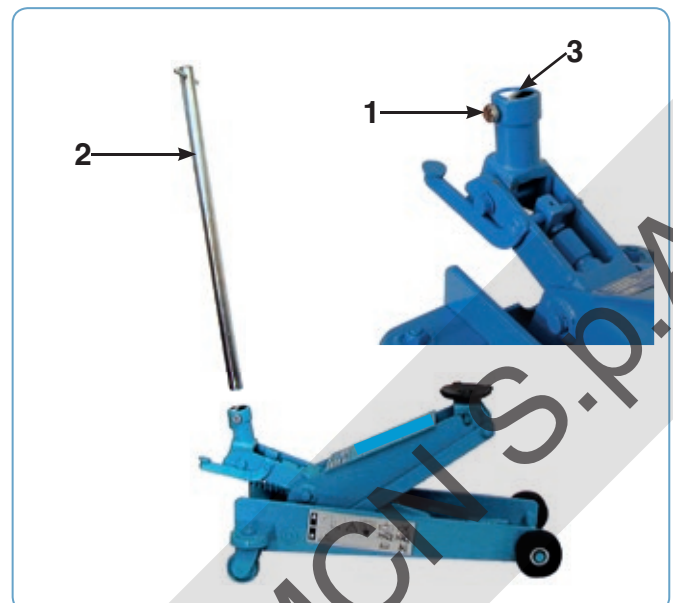

Fig. 9
- 1 Take the fixing screw off (1 Fig. 9).
- 2 Insert control lever (2 Fig. 9) in the bush (3 Fig. 9), making sure that the hole of the control lever is right in front of the hole of the bush.
- 3 Tight the screw back well in place (1 Fig. 9).